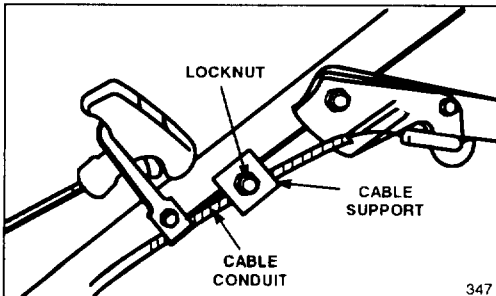

Figure 24
3. ADJUST CABLE CONDUIT—Loosen locknut on cable support (Fig. 24). Insert  $1/8'' - 3/16''$  object between brake lever and handle. Pull down on cable conduit until slack is removed. Then tighten locknut.